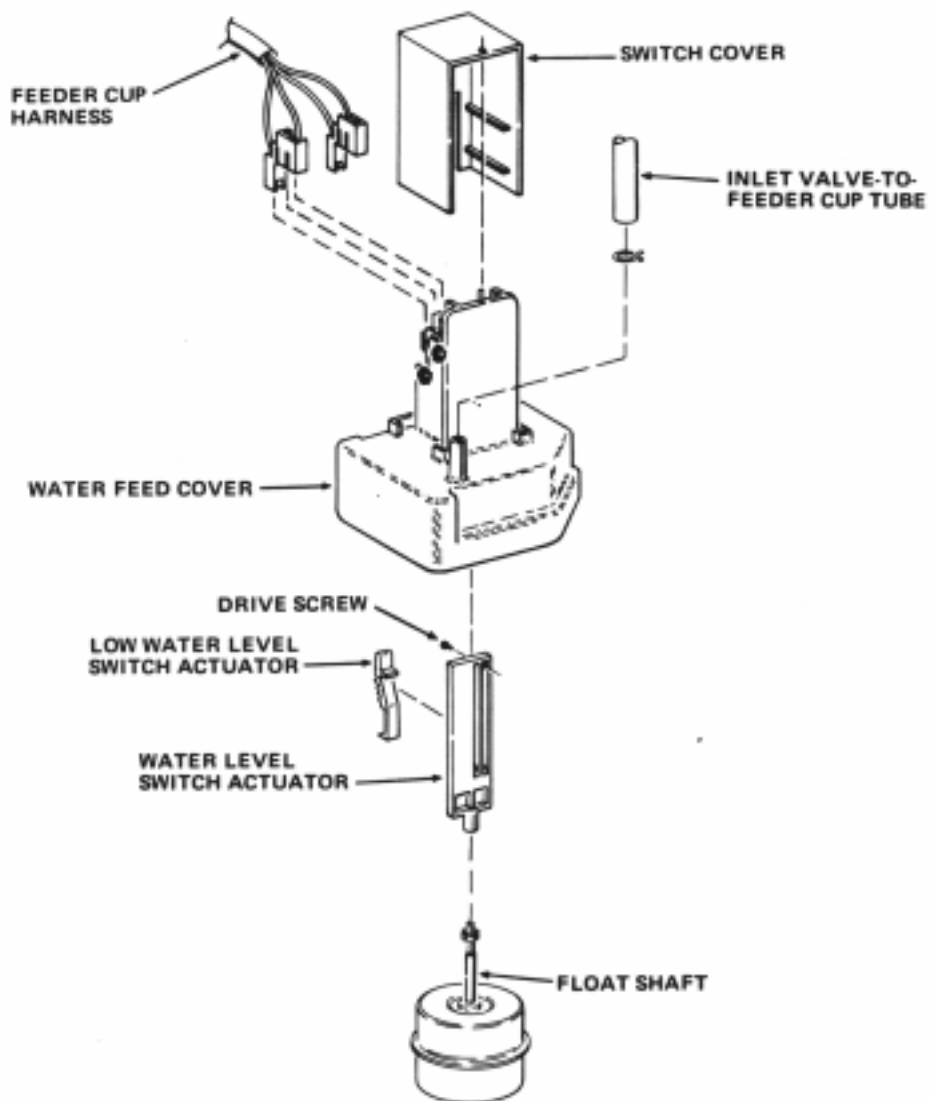

FIGURE 1
3. Disconnect the Inlet Valve-to-Feeder Cup Tube from the Water Feeder Assembly. See Figure 1.
4. Lift the Switch Cover off the Water Feeder Assembly. See Figure 1.
5. Disconnect the Switch Receptacles of the Feeder Cup Harness from the Inlet and Low Water Level Switches of the Water Feeder Assembly. See Figure 1.
7. Screw the Float Shaft out of the insert in the bottom of the Water Level Switch Actuator. Leave the Nut w/Lockwasher in place on the Float Shaft. See Figure 1.
- a. Pull the Low Water Level Switch Actuator out of the long channel in the Water Level Switch Actuator. Be sure to retain the Low Water Level Switch Actuator. See Figure 1.
- b. Remove the Drive Screw from the Water Level Switch Actuator. See Figure 1.
7. Connect the Switch Receptacles of the Feeder Cup Harness to the Inlet and Low Water Level Switches. See Figure 1.
8. Install the Switch Cover on the Water Feeder Assembly. See Figure 1.
9. Connect the Inlet Valve-to-Feeder Cup Tube to the Water Feeder Assembly. See Figure 1.